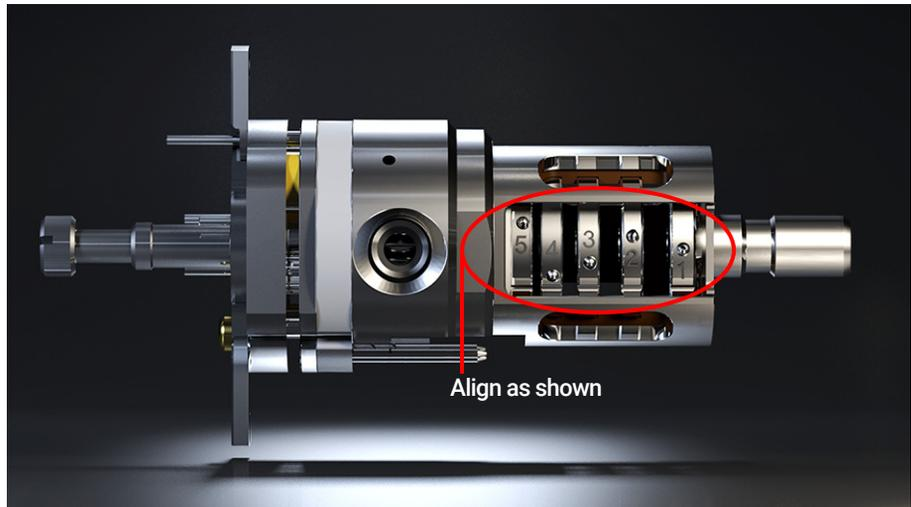

Figure 39. Assembled EI HES
- 1** Assemble the five lenses inside the lens insulator. (See **Figure 39** on page 131.) The lens number is engraved into the outer circumference of each lens.